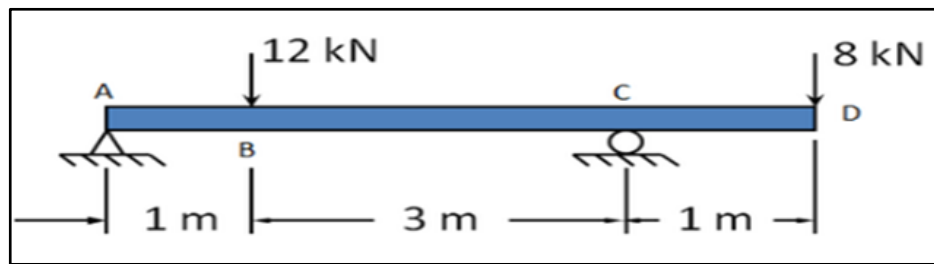

Figure 4(b) / Rajah 4(b)
- CLO2 (b) Figure 4(b) shows overhanging beam subjected to a point load of 12 kN and 8 kN. Sketch the Shear Force Diagram (SFD) and Bending Moment Diagram (BMD) of the beam. Given the reaction A (A_Y) = 7 kN and reaction C (C_Y) = 13 kN.